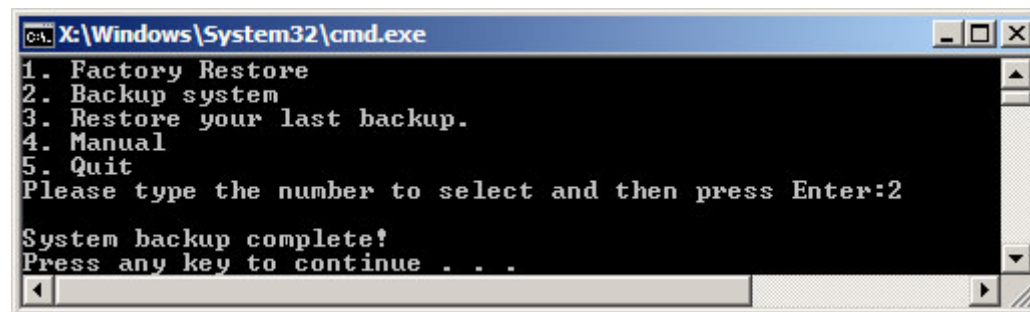

Figure A-39: System Backup Complete Window
Step 3: The screen is shown as in **Figure A-39** when system backup is complete. Press any key to reboot the system.